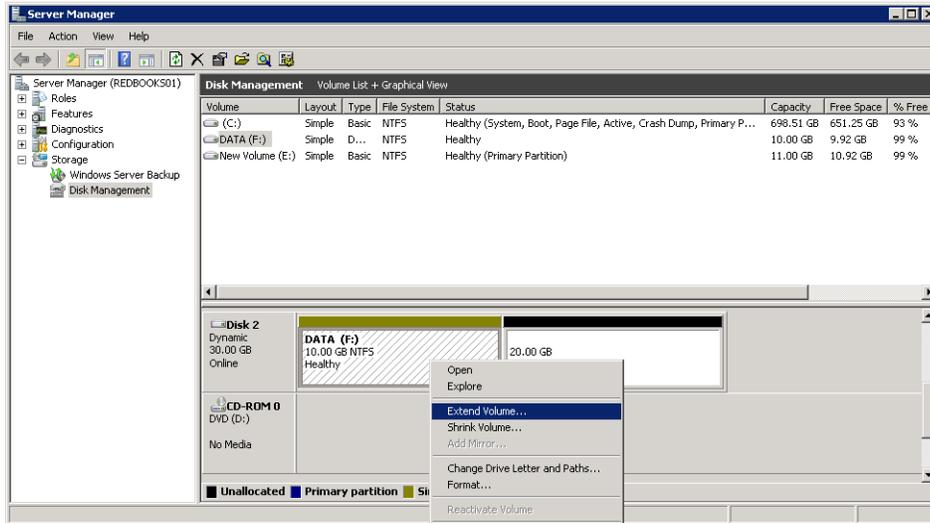

Figure 4-32 Extending Disk Volume from Disk Manager GUI
1. Right-click **Disk2** and select **Extend Volume** as shown in Figure 4-32.